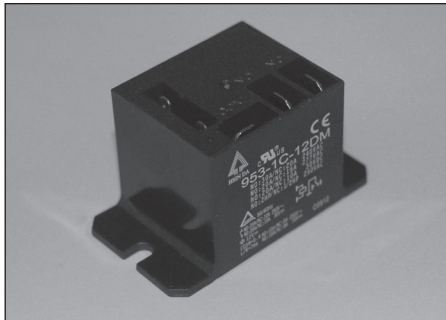

Figure 10
1. Mount the Power Cutout Module **Figure 10**, as close to the oil burner as possible.